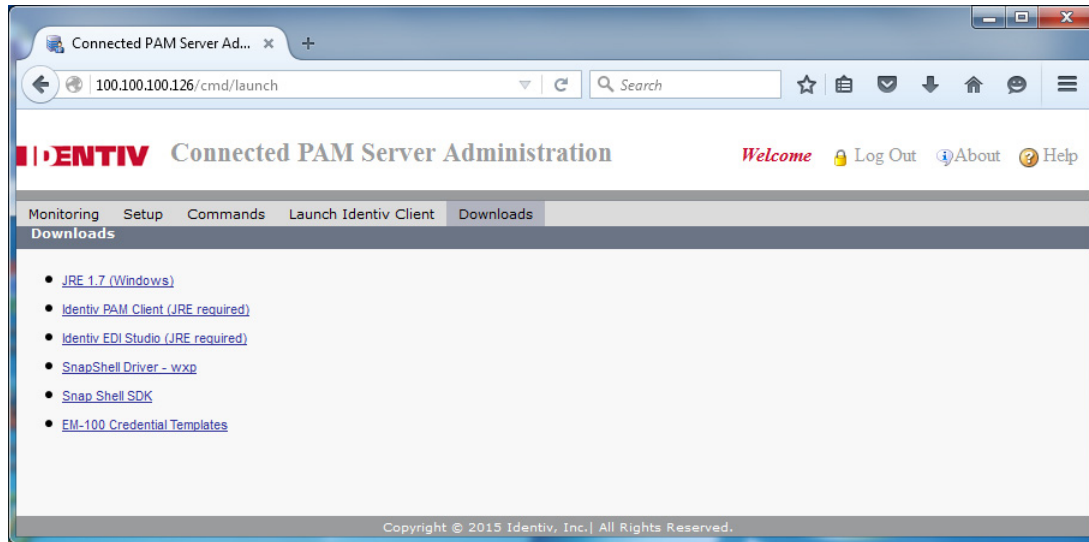

Figure 27: ICPAM Server Administration - Downloads Page
- Click the **Launch Identiv PAM Client** from the ribbon bar, as shown in Figure 27.